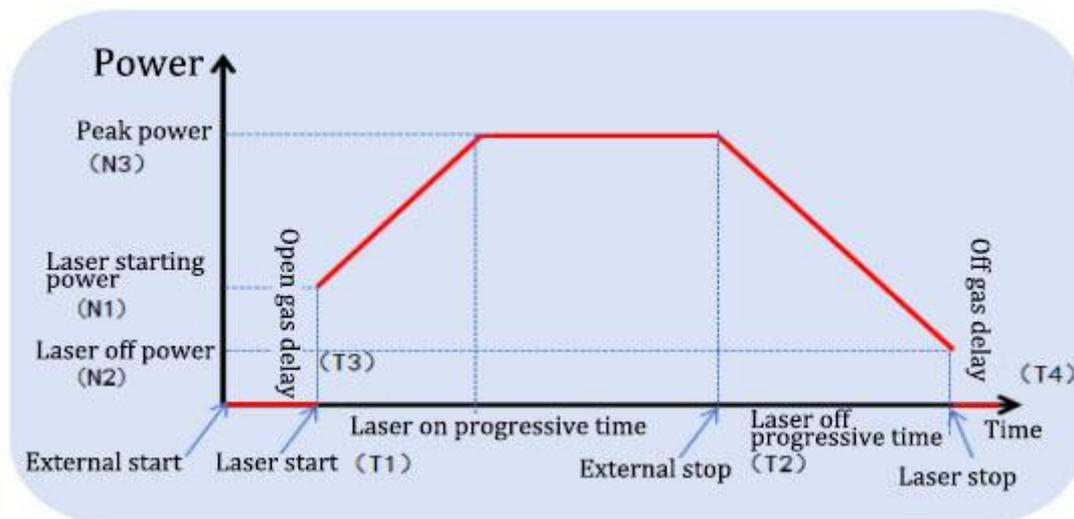

Figure 4.7 Relationship between the time of light out and gas out
- ① [Laser Power] : Based on the actual laser.
- ② [Wire wire delay]: Advance wire feeding. Example: Set 1000. After pressing the trigger, feed the wire for 1 second before the light comes out.
③ [Scan Correction] : Correction factor = target line width/measurement line width, used to adjust the actual spot size to be consistent with the system display.
④ [Laser Center offset] : [-] indicates left shift, and [+] indicates right shift. Used to adjust the spot to be centered.
⑤ [Open gas delay] : Release the air in advance before the light comes out.
⑥ [off gas delay]: After the light is turned off, the gas-off is delayed.
⑦ [Laser starting /laser off Power][Laser on /Laser off progressive time] : As shown in Figure 4.7, [Laser on progressive time T1] represents the time from [Laser starting power N1] to [peak power N3], and [laser off progressive T2] represents the time from [peak Power N3] to [laser off power N2].